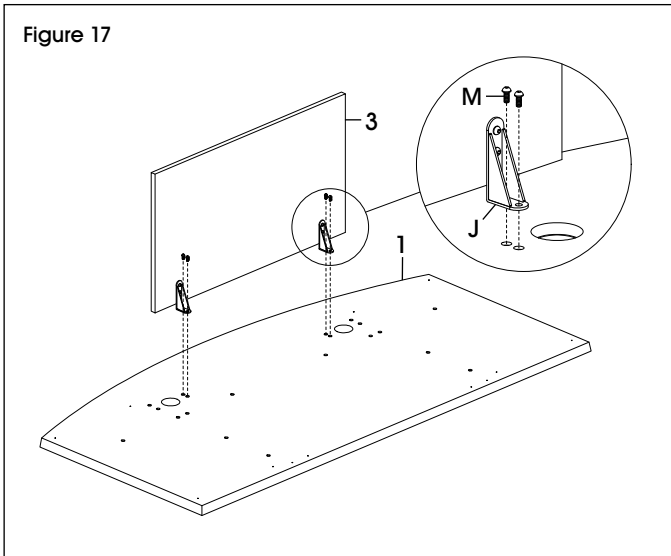

Figure 17
17. With a second person, place desktop (1) upside down. Attach the hanging modesty panel (3) to the desktop (1) using four M6 x 14 mm bolts (M). (See Figure 17)